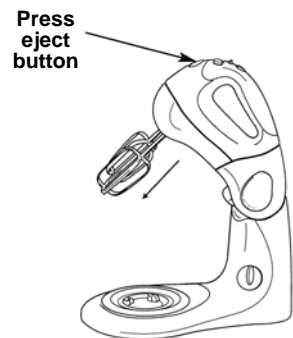

Fig. 1
3. To release the beaters from the unit, press on the beater eject button on the front of the unit and they will pop out. (Fig. 1)
5. To release the dough hooks from the unit, press on the beater eject button on the front of the unit and they will pop out. (Fig. 1)